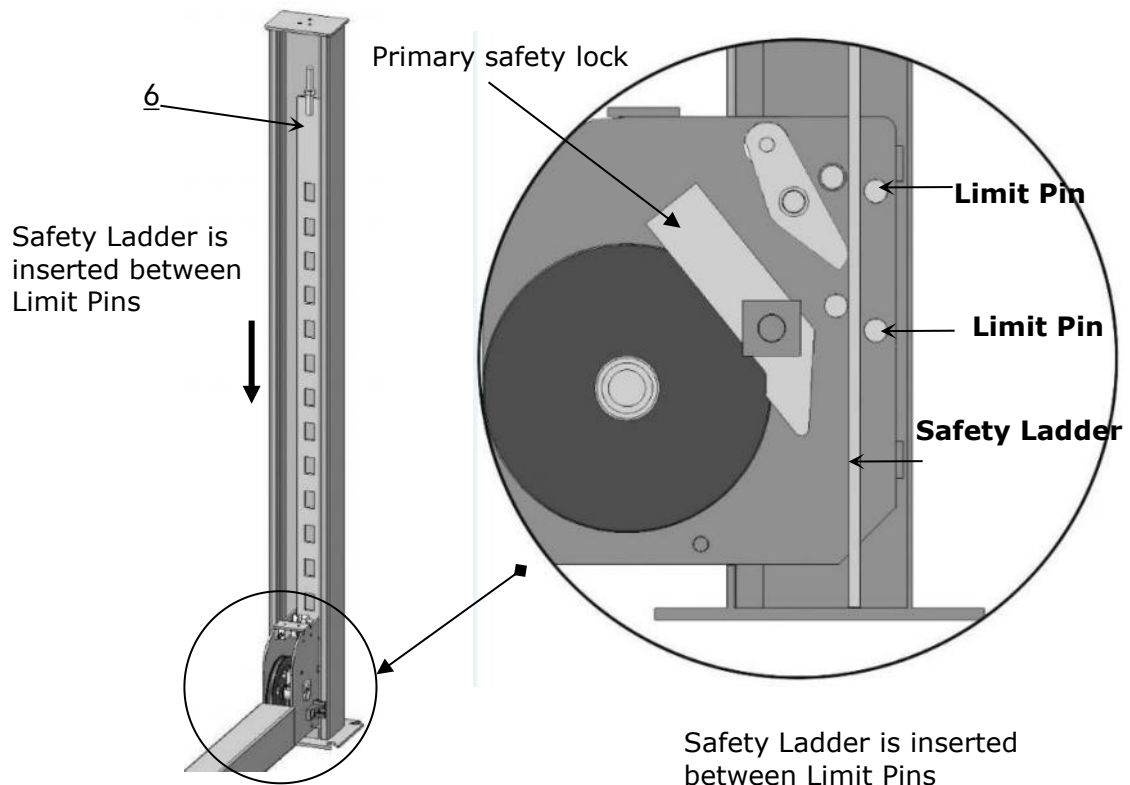

Fig. 17
1. Remove one nut of the safety ladders, and adjust other nuts of four safety ladders to be at the same position. Then install the safety ladders (**See Fig. 17**).